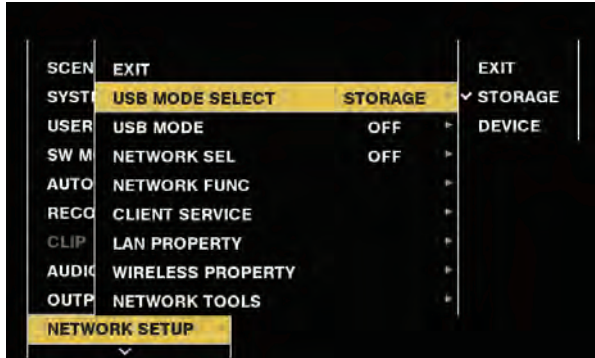

Fig. 2
**2** Set to [STORAGE] in the main menu → [NETWORK SETUP] → [USB MODE SELECT]. (Fig. 2)